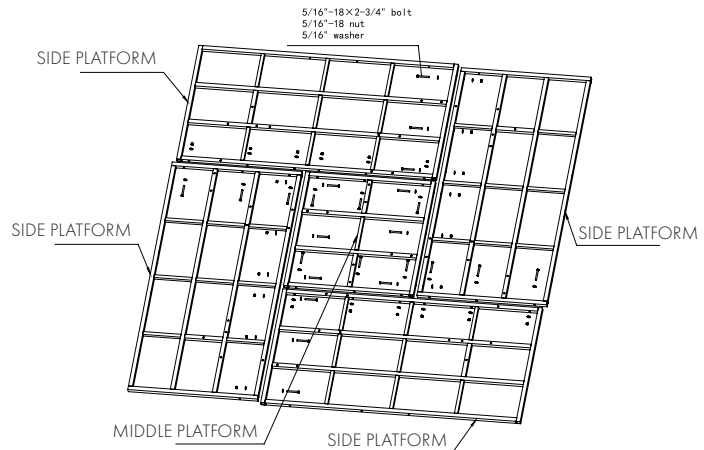

FIGURE 1
Assemble the four **SIDE PLATFORMS (#1)** to the **MIDDLE PLATFORM (#2)** by using (24) 5/16"-18 x 2-3/4" bolts, (24) 5/16" lock nuts and (48) 5/16" flat washers (Figure 1). **Leave these hand tight for now.**